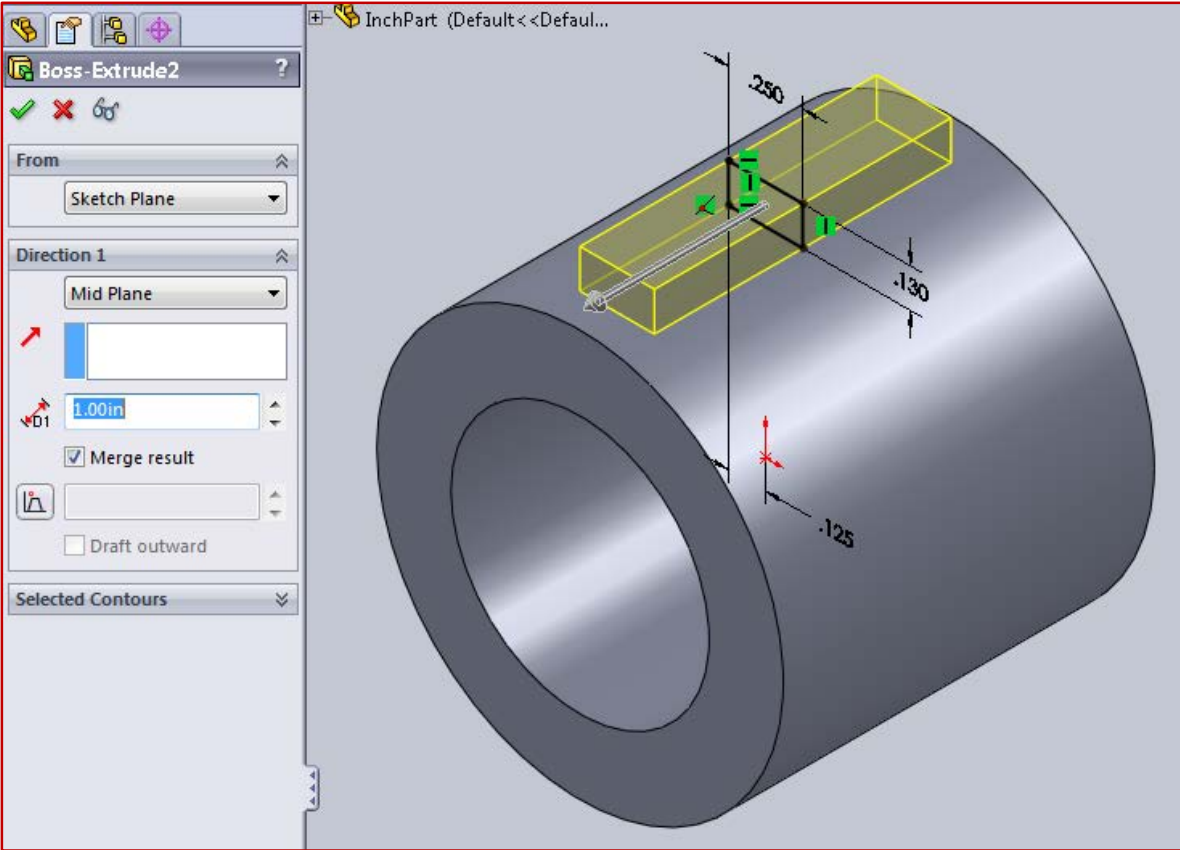

Figure 6.2 – Wheel Bump Extrusion
Step 38: Use **Extruded Boss/Base** using the **Midplane** option and the length of the bumps in SKBD121 to get Figure 6.2. Notice that the bumps do not extend to the edges of the wheel.